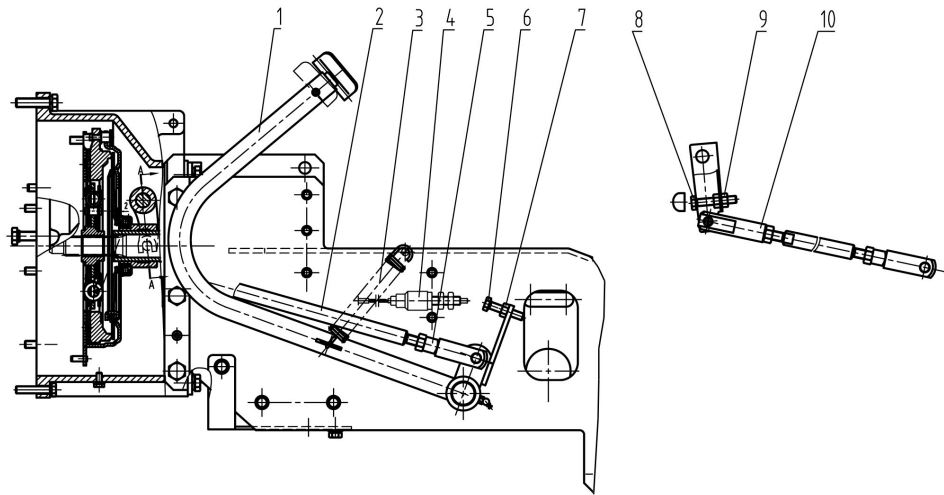

Figure 6-1 Single-stage clutch
Loosen the nut and rotate the adjusting rod (2). When the distance between the front end of the release bearing and the release pawl is about 2-3mm, tighten the nut (see Figure 6-1).
Rotate the adjusting rod (2), the adjusting fork (5) and the adjusting fork (10). Adjust the front stop screw (8) and the rear stop screw (6), and then depress the clutch pedal (1). Tighten the nut (9) and the nut (7) when the clutch can be completely separated. When the adjusting rod (2) needs to be readjusted after the tractor has been used for a period of time (see Figure 6-1).
Loosen and adjust lock nut (7), adjust the safety start switch (4). Shorten the distance between the clutch control board and the start switch contact by 2~3mm after the clutch pedal is depressed and then tighten the nut (7) (See Figure 6-1).